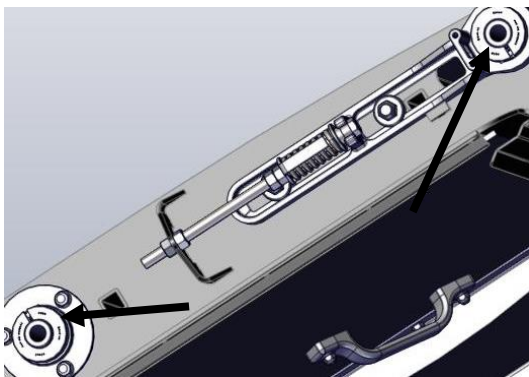

Figure 55
16. Slide the collar on the bearing and tighten the set-screws on the collar to hold in place. Just tighten the screws enough to hold into place. DO NOT overtighten the set screws. Then tighten the Torx screw in the collar to 97 in.lbs. Figure 55